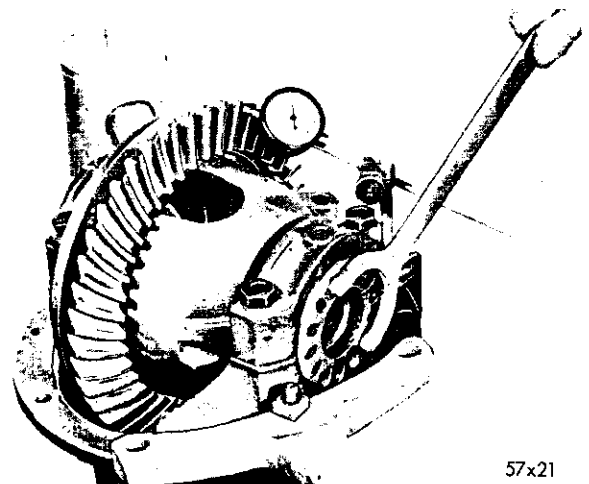

Fig. 27—Measuring Backlash Between Drive Gear and Pinion
(1) Attach dial indicator Tool C-340 or C-3339 to carrier flange so pointer or indicator is squarely contacting one of the ring gear teeth (drive side) (Fig 27).
(2) Measure the backlash between the ring gear